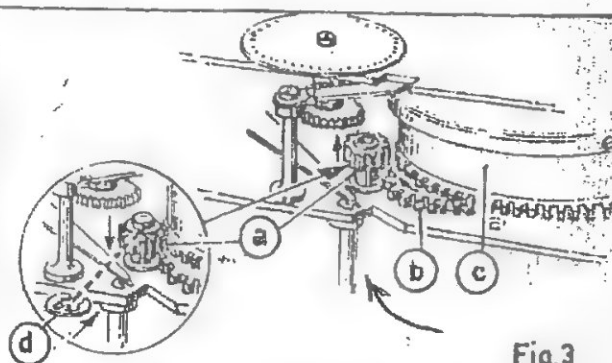

Fig 3
3. Aligning the spring motor (fig. 3)